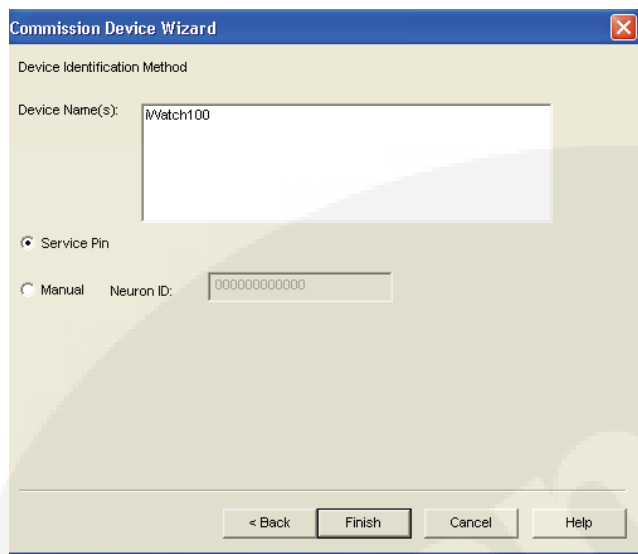

FIGURE 4-32. SELECTION OF DEVICE IDENTIFICATION
4. Select **Service Pin** as the device identification method, then click **Finish** (see Figure 4-32).